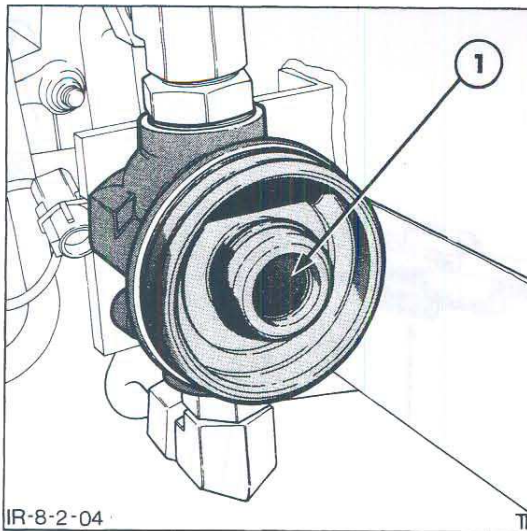

Figure 3
1. Remove the hydraulic oil filter element on the right-hand side of the Unit and drain the hydraulic oil into a suitable container by depressing and holding in the anti-syphon valve, Figure 3.